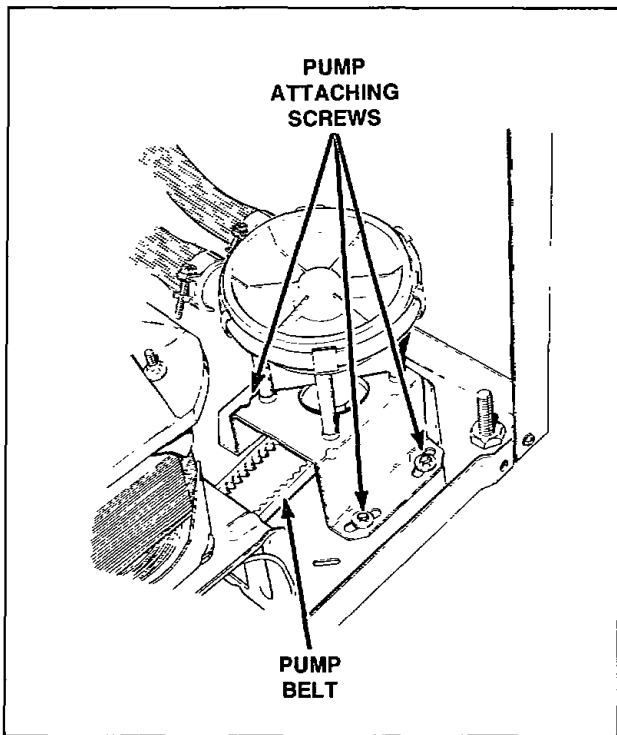

Figure 60
- b. Loosen the two front mounting screws, *Figure 60*, then loosen the rear screw.